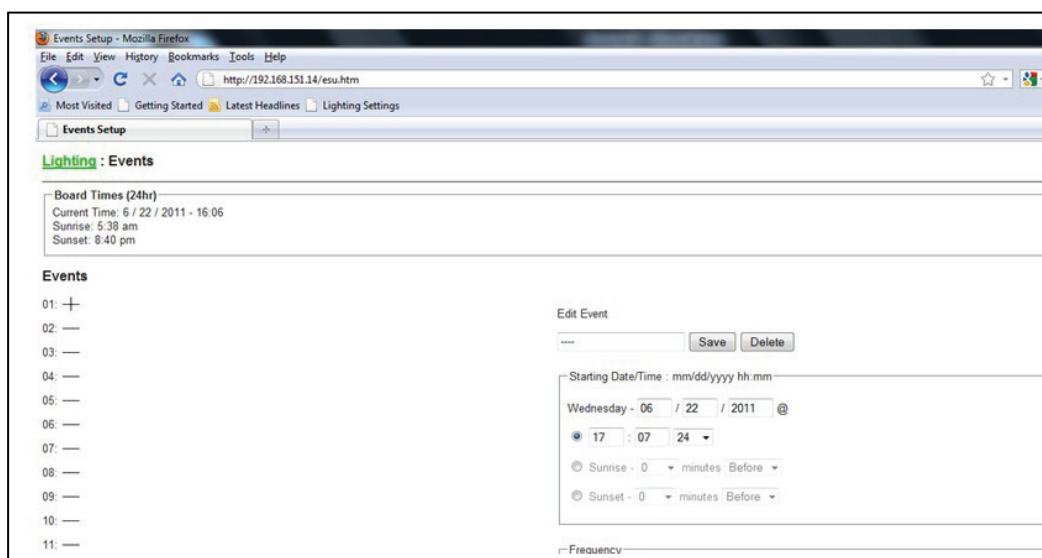

Figure 8
- G. Select "Events" to create a lighting Event or Scene that will take place on a specific day and time or even repeat on certain days, weeks, months, or years. You can create up to 20 Events, each Event containing up to two Scenes. Once you select the Event number (we recommend you give it a name), the editing portion (see **Figure 8**) allows you to pick which day and time it first occurs. Notice that you can relate the time to sunrise or sunset with a variable, like "turn on the outside lights 10 minutes before sunset". Then you select how often you want this event to occur. The "Actions" area is where you select which Scene/s will be part of this Event.